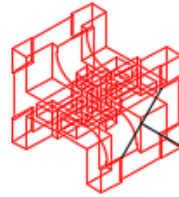

Figure Step 7A
Step 7 Copy, rotate and locate one of the models at the end of the line you drew in Step 6. Locate it at the absolute coordinates X-5,Y100,Z0 (Note that X is negative 5) as shown in the figure. (Figure Step 7A and 7B)